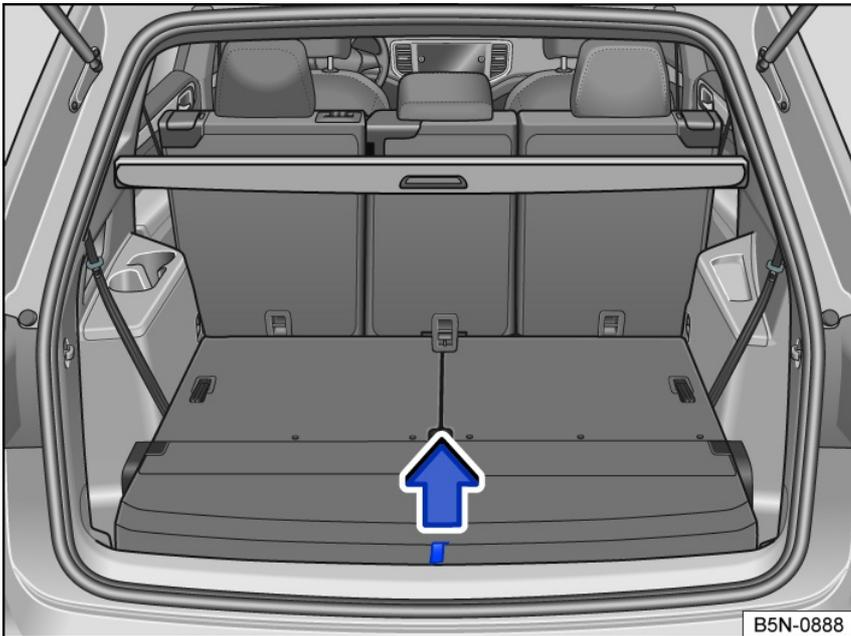

Fig. 165 In the luggage compartment: Lifting up the luggage compartment floor.
1. Pull the luggage compartment floor upwards by the loop *fig. 165* in the direction of the arrow and remove it.